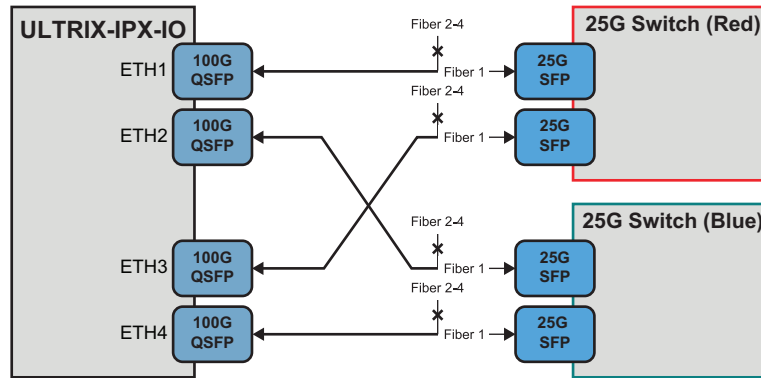

Figure 38 Workflow — QSFP/Breakout to SFP (25G Switches)
**Figure 38** shows a simplified workflow where the ULTRIX-IPX-IO provides bi-directional communication via four 100G QSFP using breakout fiber cables connected to two 25G ethernet switches. In this workflow, the breakout cable fibers 2 to 4 are unused.